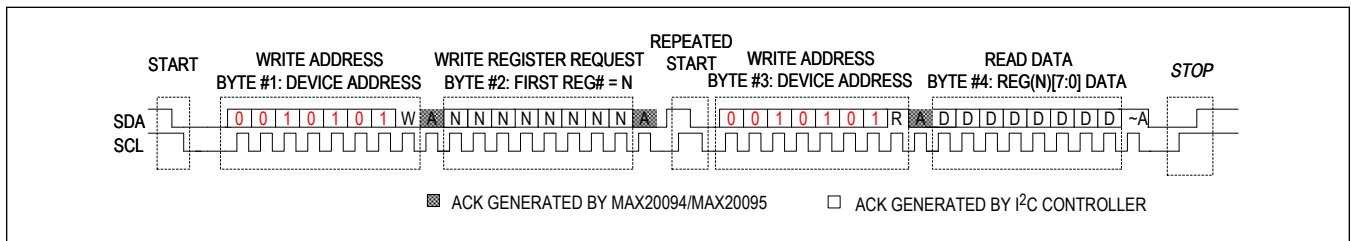

Figure 7. I²C Read Sequence
The ICs support standard combined-format I²C read-mode operations. Each receive sequence is again framed by a START (S) or Repeated START (Sr) condition and a STOP (P). Each byte is 8 bits long and is always followed by an ACK clock pulse, as shown in Figure 7. The first byte contains the address of the device, with R/W = 0 to indicate a write. The second byte contains the register that is to be read back. There is now a Repeated START (Sr) condition, followed by the device address, with R/W = 1 to indicate a read and an acknowledge (ACK) clock. The controller still has control of the SCL line, but the device takes over the SDA line. The fourth byte in the frame contains the register data readback followed by a STOP (P) condition.